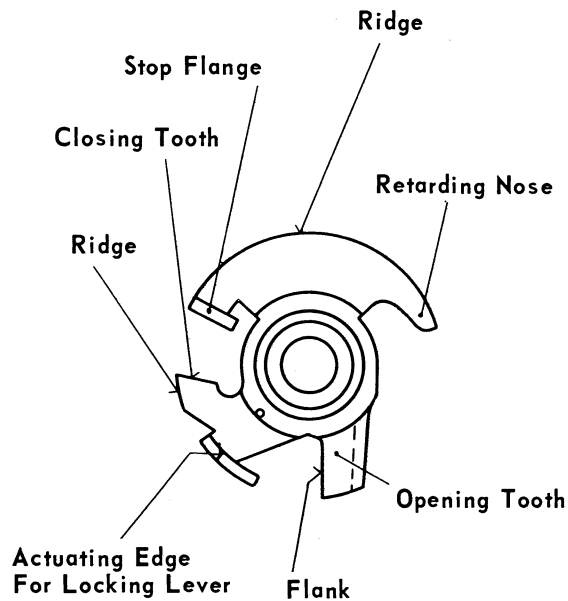

Figure 2-1. Drive
Before disassembling and repairing the Compur shutter, the technician should familiarize himself with the functions of the shutter and cocking procedure. Refer to Figures 2-1 and 2-2 during explanation of the drive and cocking.
- A. Cocking Ring. Cocking ring 528 activates cocking pinion 517; in turn, the cocking pinion activates drive 514. (Also refer to Figure 2-1)